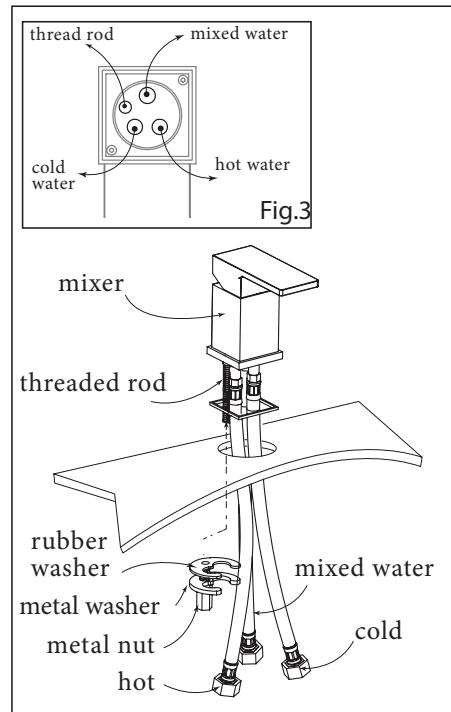

Fig.4
B. At the bottom, connect the hot and cold water hoses as shown. Next connect the mixed water hose and the threaded rod, (Fig.4).